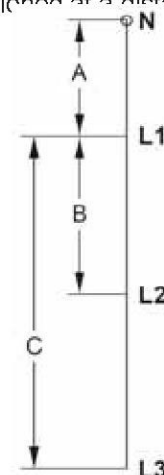

fig. 31
- **fig. 31:** The first laser lamp L1 for the seam start must be positioned at a distance $A = 135$ mm from the needles N.